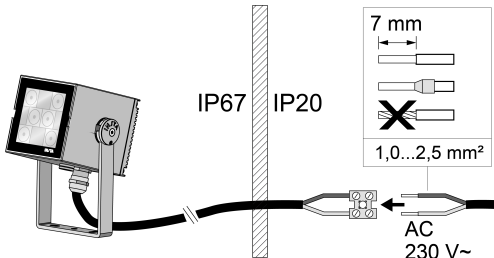

Figure 5: Connection with screw terminal
- Prepare the connecting cable according to the drawing and make the electrical connection (figure 5). Observe connection assignment (see table).